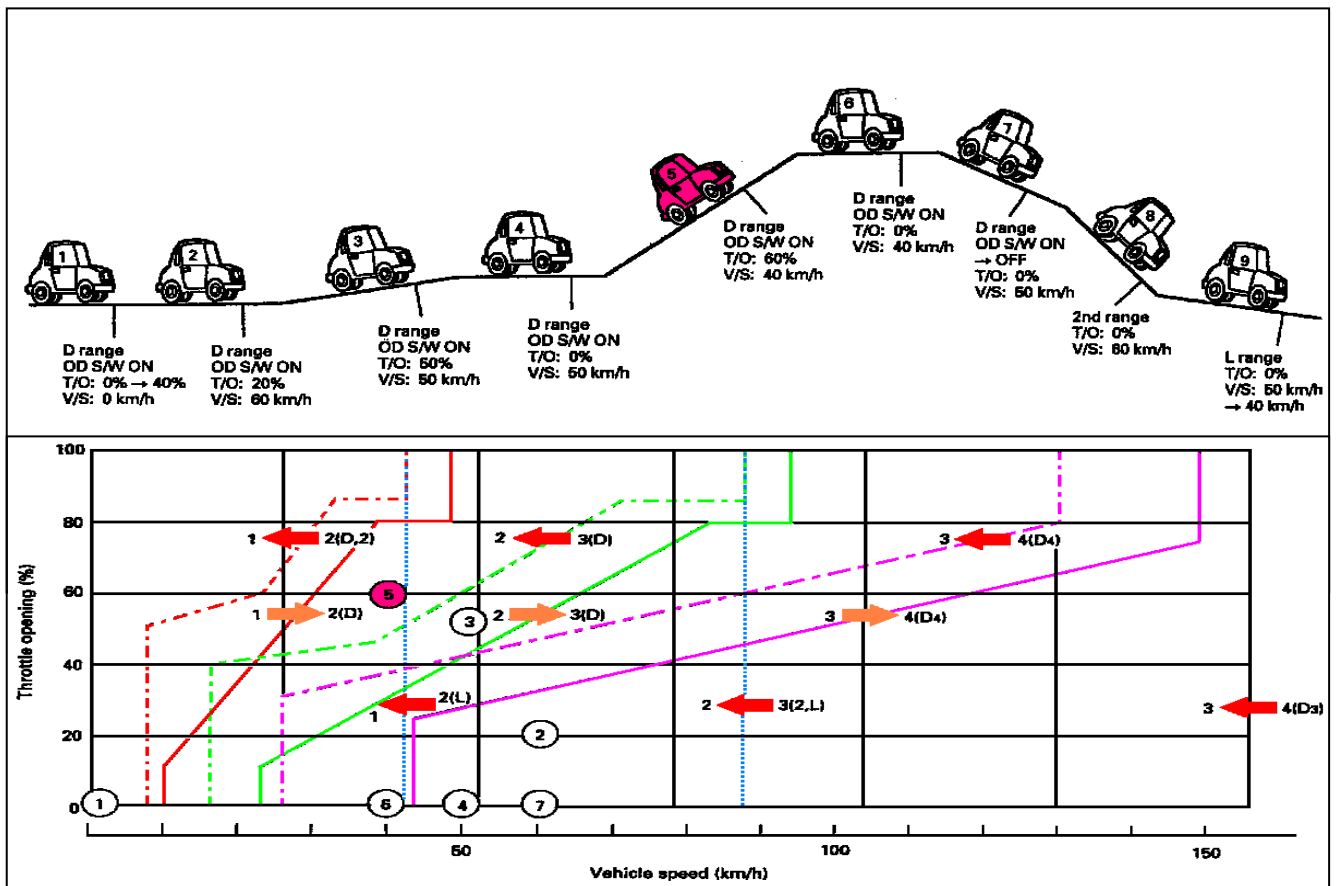

Figure 2: vehicle shift pattern chart
- a) By referring to figure 2, identify all the **FOUR (4)** main components of planetary gear set.
ii) By referring to figure 2 below clearly explain the operation and condition of the vehicle in the vehicle no. 5.